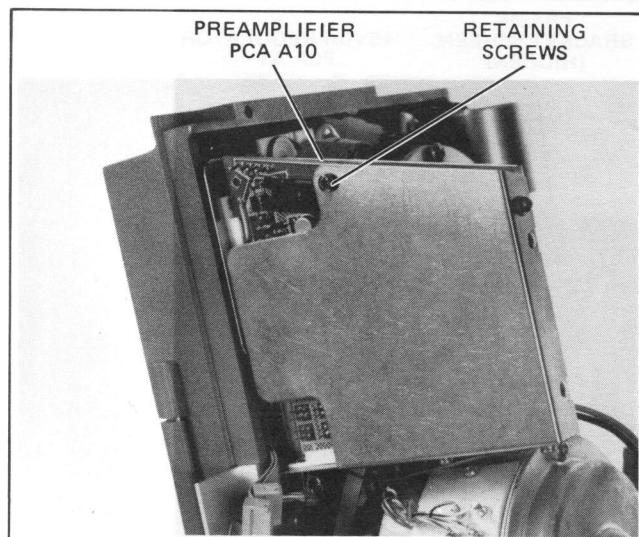

Figure 5-60. Preamplifier PCA Removal
- d. Unplug the cables from the preamplifier PCA. The two smaller plugs are from the reproduce head. The output plug is the larger plug located near the test points (see Figure 5-60).
- e. Remove the retaining screw as illustrated in Figure 5-60.